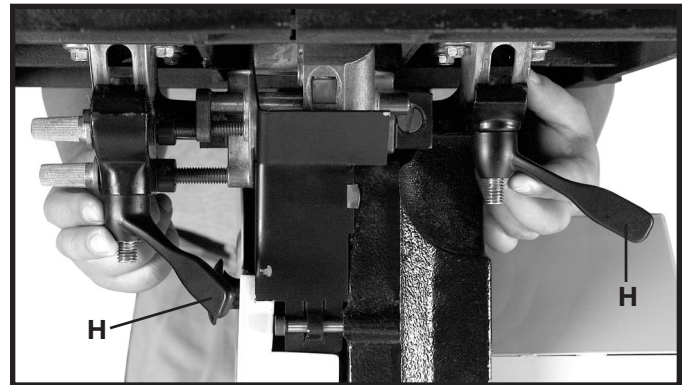

Fig. 29
3. Place table handles (H) on each stud as shown in Fig. 29. **NOTE: MAKE SURE THE TABLE HANDLES ARE POSITIONED AS SHOWN IN FIG. 29.**